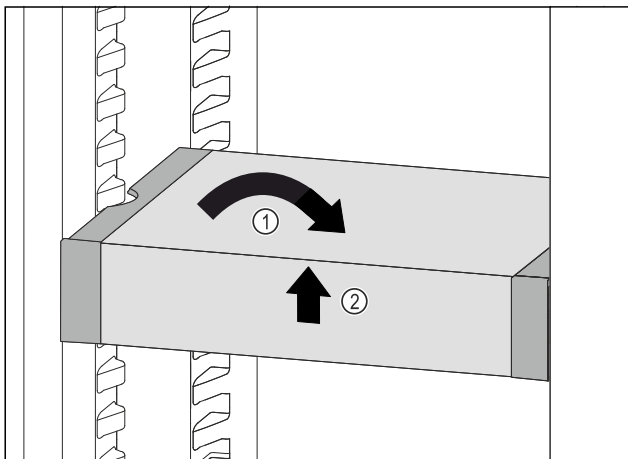

Fig. 214
- Set VarioSafe straight. Fig. 214 (1)
- Lift VarioSafe at the front. Fig. 214 (2)